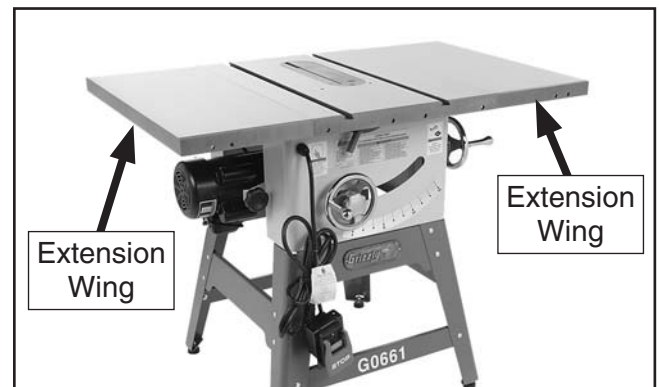

Figure 14. Extension wings installed on saw.
11. Using a helper to hold the wings in place, attach each extension wing to the main table with four M8-1.25 x 20 hex bolts and 8mm lock washers (**Figure 14**).